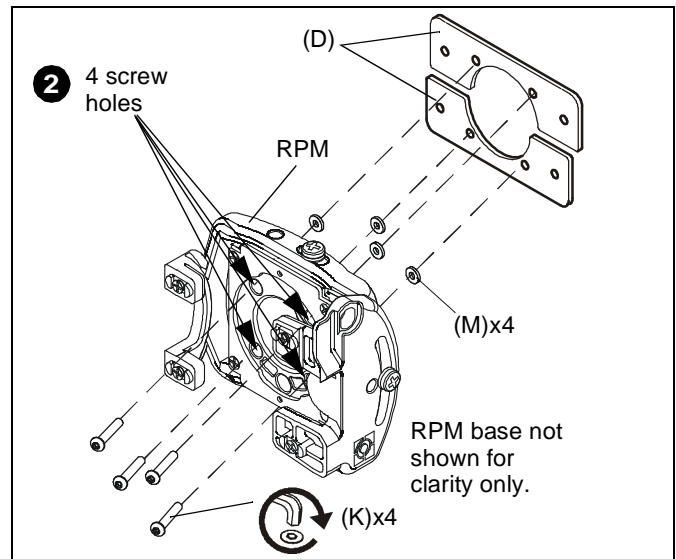

Figure 3
2. Place RPM on its top so that four screw holes are visible through the square in the RPM base. (See Figure 3)
3. Insert four 1/4"-20x1-1/2" (K) button head cap screws into the bottom of the RPM. (See Figure 3)
NOTE: The RPM base is not shown in Figure 3 for clarity only. It should NOT be removed for this installation process.
4. Place four nylon spacers (M) onto the screws as shown in Figure 3.
5. Tighten the screws through the nylon spacers and into the two interface brackets (D). (See Figure 3)